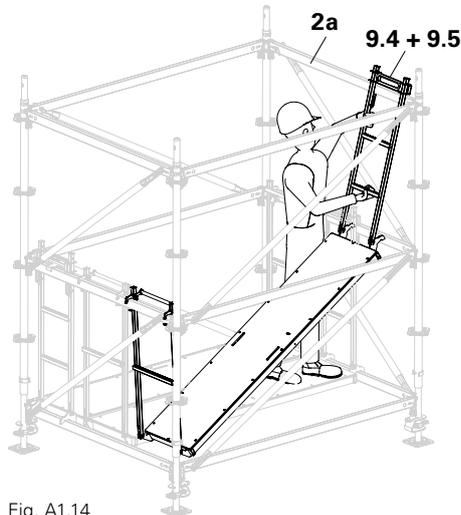

Fig. A1.14
- When moving the decking upwards begin with the yellow side. (Fig. A1.14)
1. Pull yellow bar (9.4) upwards, disengage yellow lug (9.5) and hook above the top Ledger (2a). (Fig. A1.14)